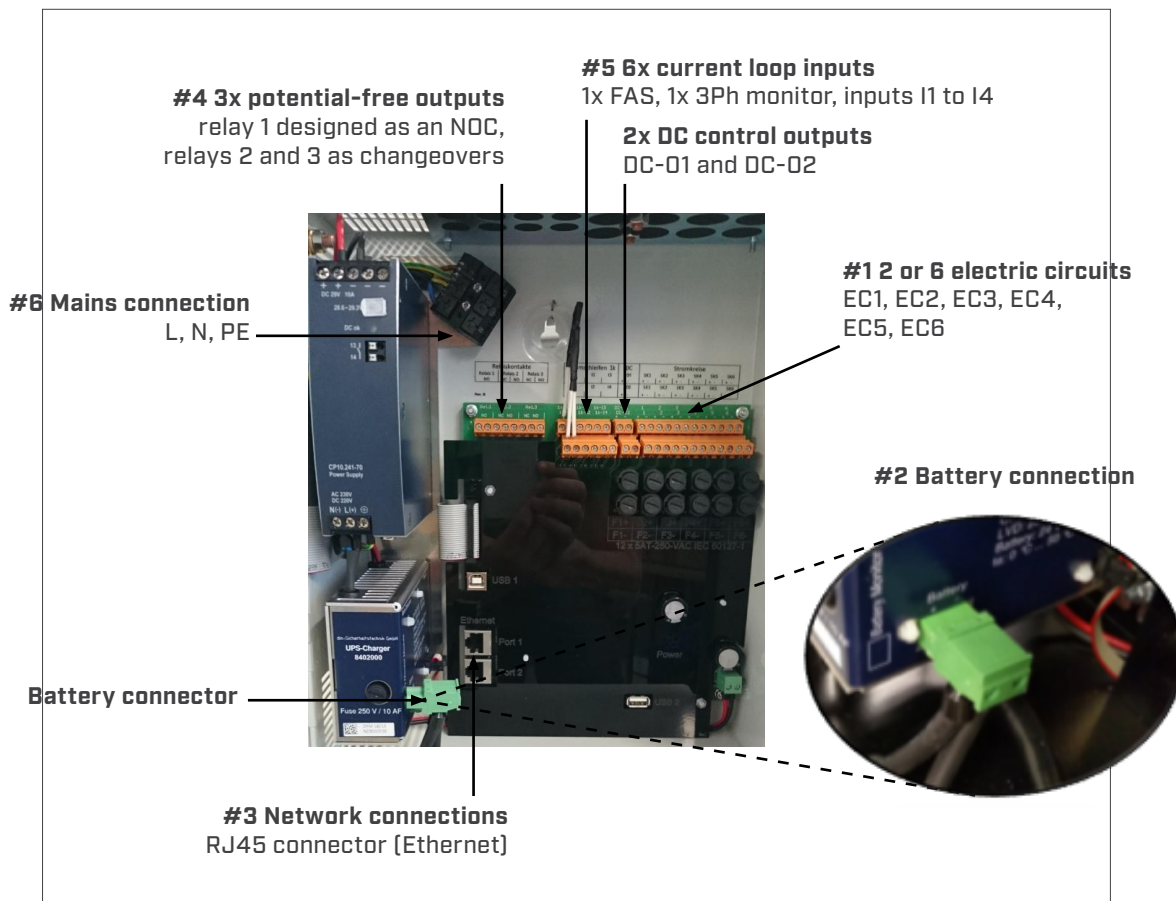

Figure 2.2
- A. Insert the electrical circuit wires through the holes at the top of the housing. Then connect each electrical circuit in EC1 to EC6. (please refer to **#1 of Figure 2.2**) Note¹: The terminal blocks accept 18AWG to 14AWG, for 12AWG or 10AWG wire gauge reducer are included with the system.
- B. Connect the battery connector. (Please refer to **#2 of Figure 2.2**)
- C. Connect the Ethernet port in RJ45 connector Port 1. (Please refer to **#3 of Figure 2.2**)
- D. For specific application only, relay outputs are required. If relay outputs are required, proceed with the connection. Note that relay 1 is normally open contacts; relay 2 & 3 are changeovers. (please refer to **#4 of Figure 2.2**)
- E. For specific application only, switches are required. If switches are used, proceed with the connection by using I1 to I4. (Please refer to **#5 of Figure 2.2**)
- F. Connect the main power cord from the transformer box. (please refer to **#6 of Figure 2.2**)